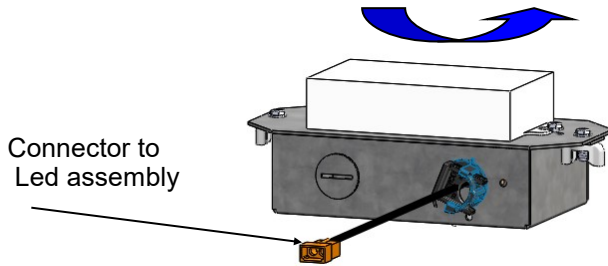
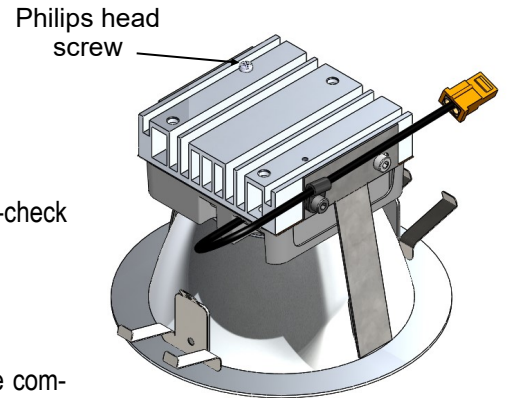

Figure 2
Figure 4
1. Locate driver assembly (see **Figure 2**).
2. Loosen both wing nuts and rotate counterclockwise to remove driver/cover. (see top of **Figure 2**)
1. Locate Led Assembly. (see **Figure 4**)
3. Attached Led Assembly connector (see **Figure 4**) to Driver Led connector (see **Figure 2**).